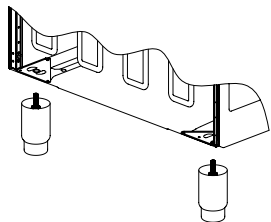
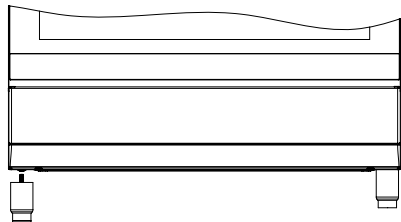

Figure 1
Figure 2
1. Foot attachment lath is installed on the oven from the bottom of the oven as shown in (figure 1). Nuts are centered on these lathes in order to screw feet. Complete the feet installation process by screwing the feet to the nuts (figure 2).